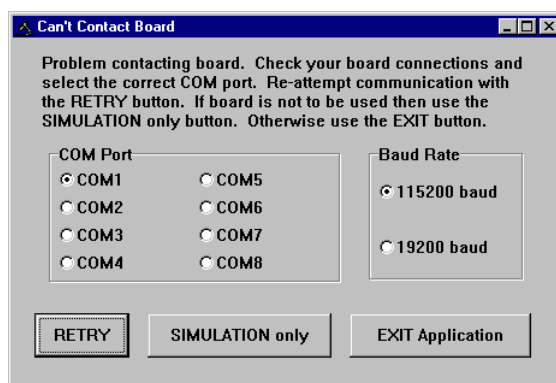

Figure 6-1. *Can't Contact Board* Dialog
- If the software is not able to connect with the board, the *Can't Contact Board* dialog (Figure 6-1) appears.